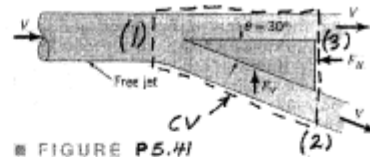

FIGURE P5.41
5.41 A free jet of fluid strikes a wedge as shown in Fig. P5.41. Of the total flow, a portion is deflected 30° ; the remainder is not deflected. The horizontal and vertical components of force needed to hold the wedge stationary are F_H and F_V , respectively. Gravity is negligible, and the fluid speed remains constant. Determine the force ratio, F_H/F_V .